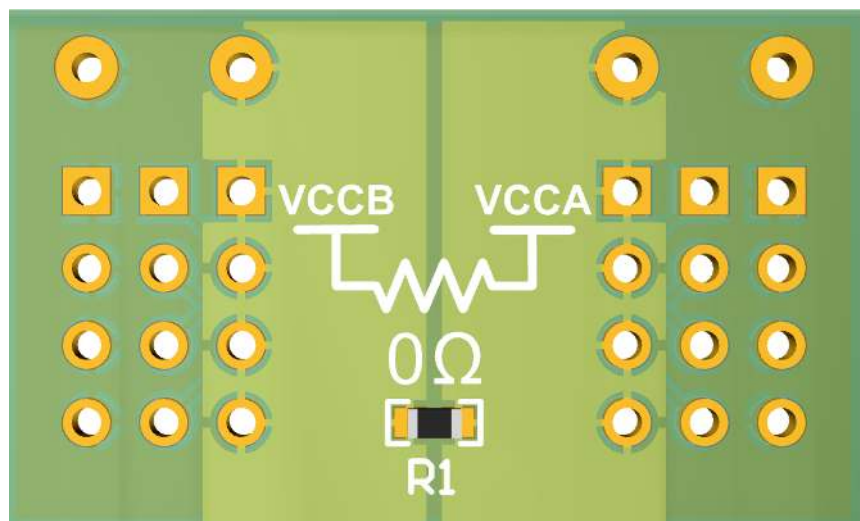

Figure 3. Single Supply Configuration
3. Ensure EVM is configured accordingly for dual supply or single supply device. EVM comes default configured for dual supply devices, but is easily configured using a 0-Ω resistor for single supply devices. Figure 3 illustrates how this is done.